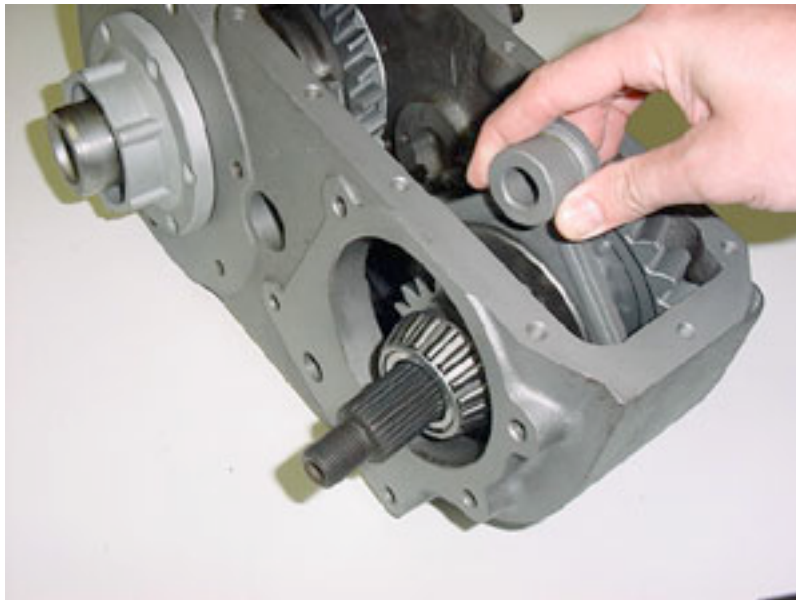

FIG: 14
14) Arrange the shift forks in the case to accommodate the rails (Fig.14).